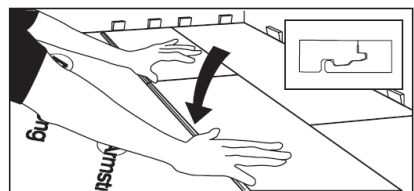

Fig. 15
6. Mark the last piece, cut and install. After all boards in the row are installed, press or walk all boards flat to the subfloor to begin the next row (**Fig. 15**).